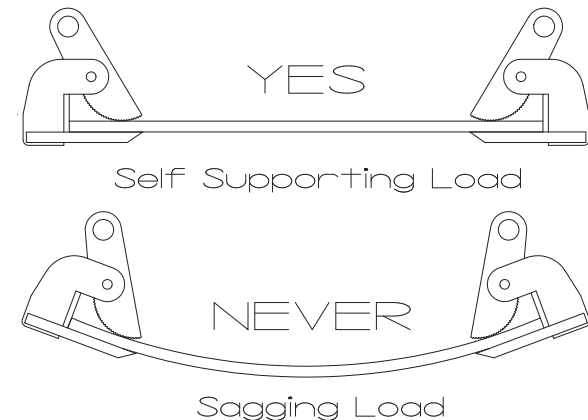

Figure 7
9. Never use on plates or bundles of plates that are sagging and not able to support themselves (Fig. 7).
2. Never use on plates or bundles of plates that are sagging and not able to support themselves (Fig. 7).